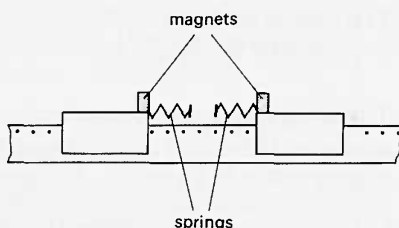

Figure A97
- 26(L)** Two identical air track vehicles have springy buffers and strong attracting magnets mounted on facing ends as shown diagrammatically in figure A97.